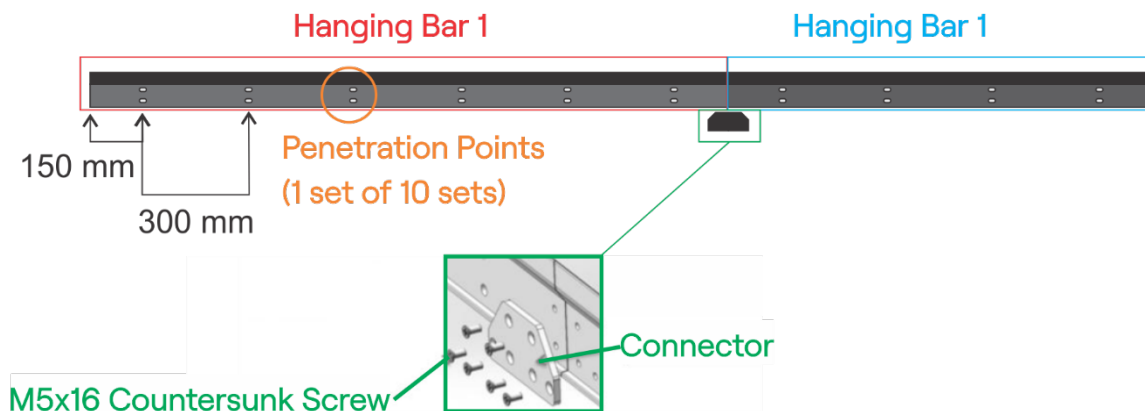
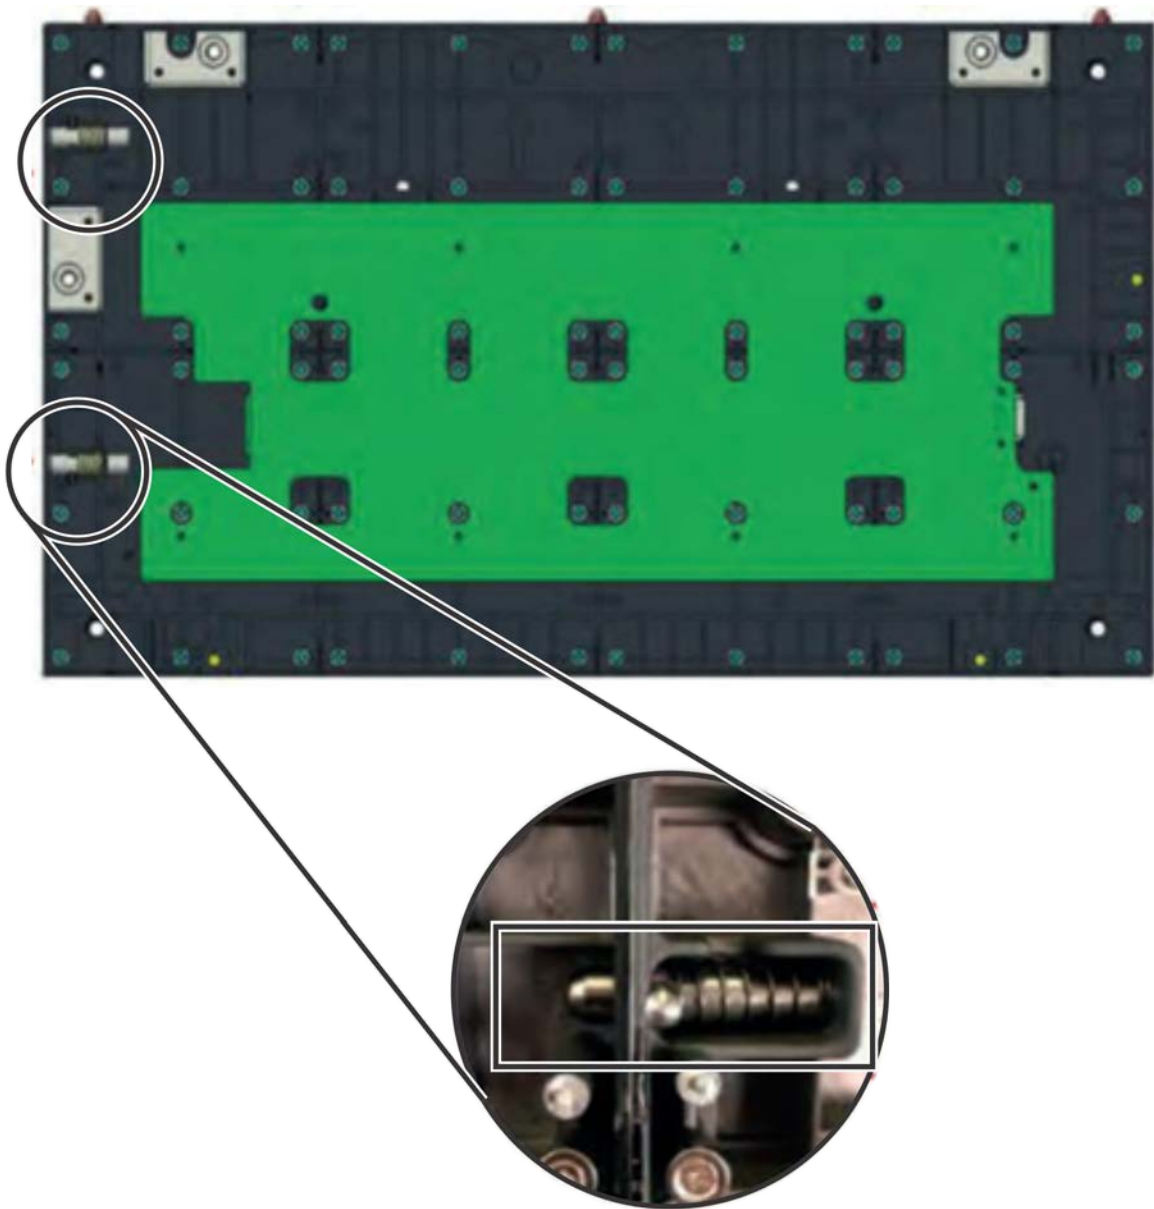
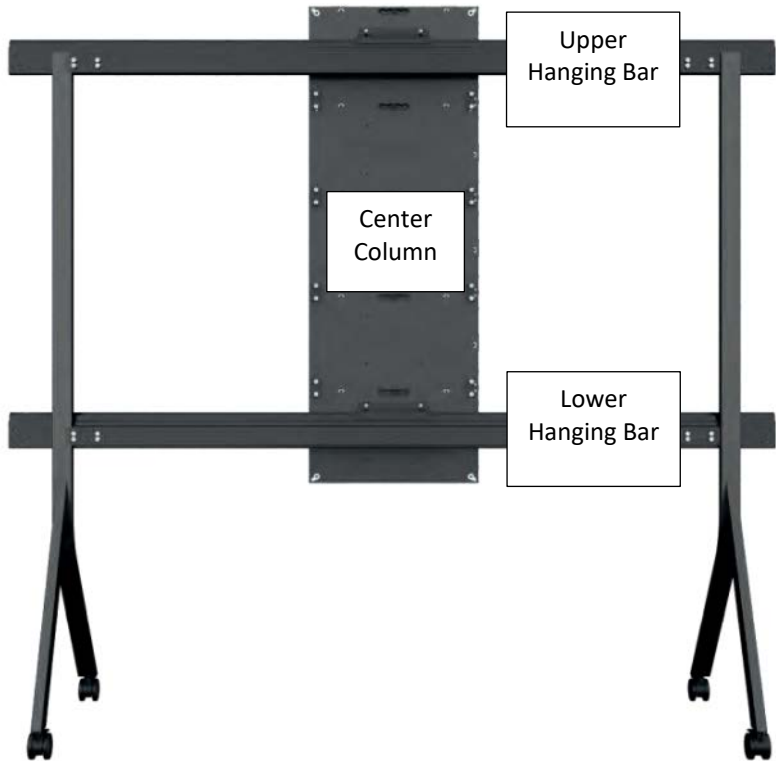
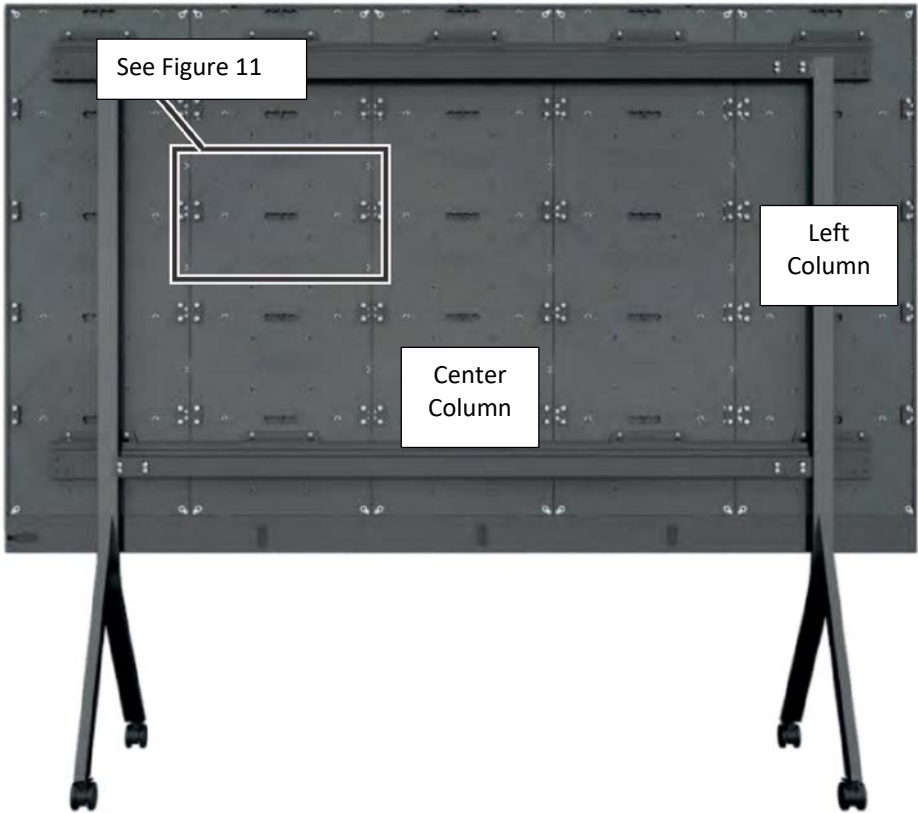

Figure 5
Figure 11
Figure 12: Viewed from back
Figure 13: Viewed from back
7. Connect Upper Hanging Bar 1 to Upper Hanging Bar 2 using Connector (see Figure 5). Fit Hanging Bar 1 end to end with Hanging Bar 2 and use 6 M5x16 countersunk screws to preassemble the Hanging Bar. Do this for the Upper Hanging Bar and the Lower Hanging Bar
8. Using the preassembled Upper and Lower Hanging Bars and a level gauge, determine the Penetration Points (punching positions) and mark the spots. Figure 5 shows the spacing and locations of the Penetration Points.
3. When individual columns are complete, hang them on the Hanging Bar (Figure 5) starting with the center column (see Figure 12 & Figure 13) and adding additional columns to either side moving outward. Place columns in position next to each other with the spring latches of one column aligned to the holes of the adjacent column (see Figure 11).